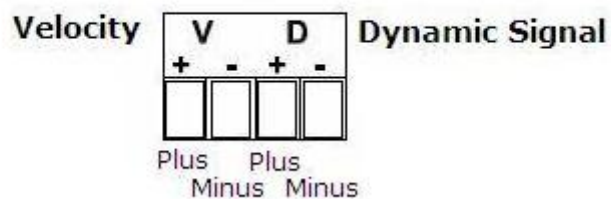

Figure 7. CMSS 420VT Pin Assignment.
- With wires coming out of conduit elbow, connect to VT as shown in Figure 7 above.